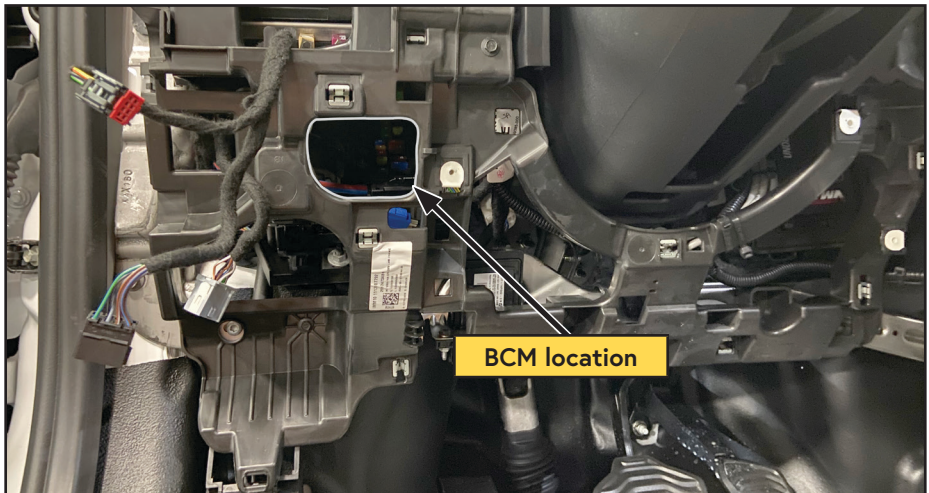

Figure 55 — BCM location
- Locate connector C2280G in the Body Control Module (BCM) to the left of the steering column (Figure 55).